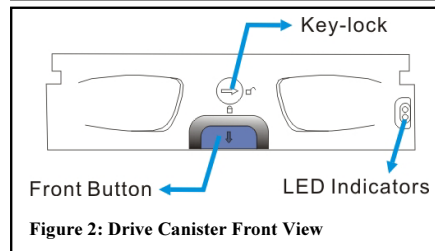

Figure 2: Drive Canister Front View
1. Turn the key-lock to the unlocked position. The key-lock is unlocked if the groove on its face is in a horizontal orientation. (See *Figure 2*)